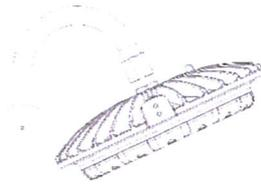

Figure 5
- ☞ The mounting types are for the use of bending electrical tube mounting (Figure 5). Tube mounting thread is NPT 1-1/2".